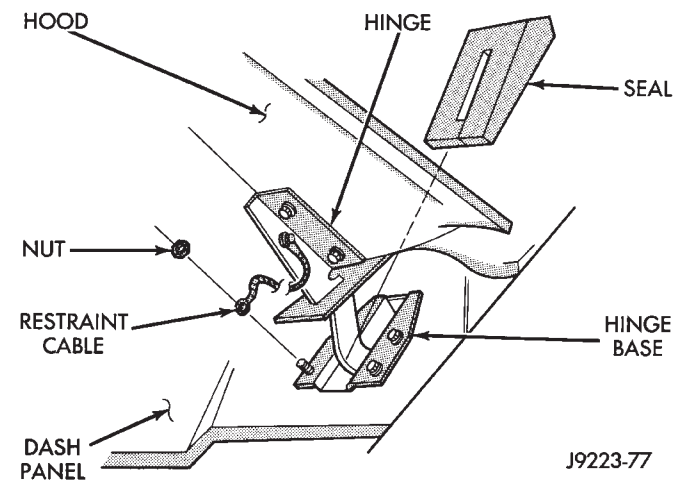

Fig. 20 Hood Hinge and Seal
- (1) Remove the hood from the vehicle.
- (2) Remove the seal from the hinge base (Fig. 20).